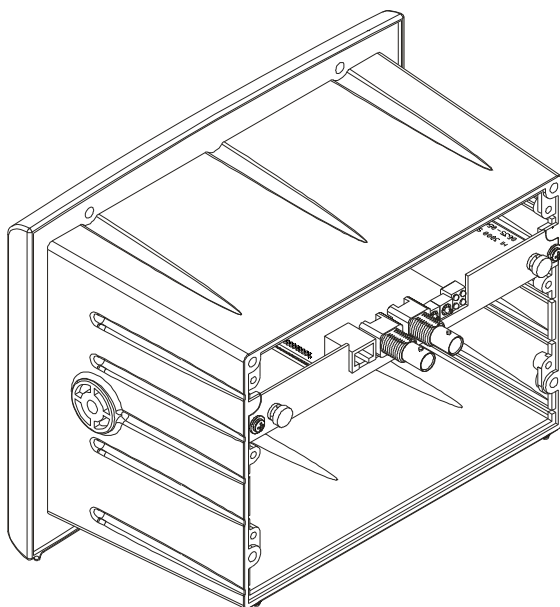

FIG. 49: CONTROLNET OPTION CARD INSTALLED
- Step 4. Use a phillips head screw driver and install the two (2) screws that fasten the ControlNet card panel to the HI 3000 Instrument Chassis. (See Fig. 49)